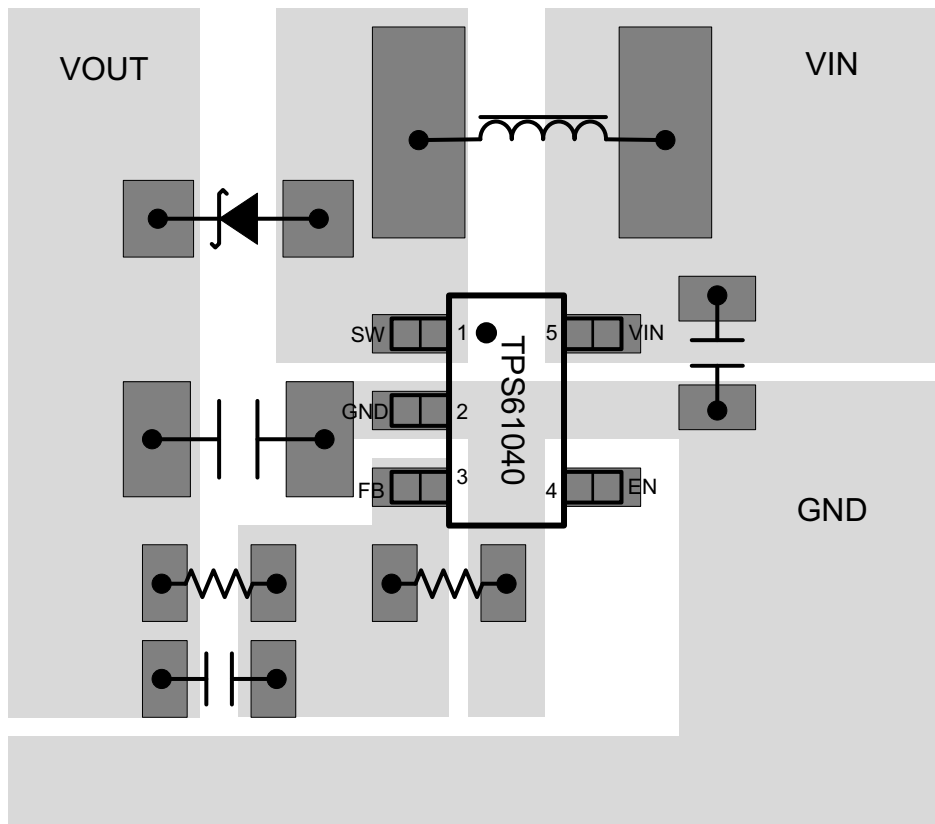

Figure 23. Layout Diagram
**Table 3. Recommended Inductor for Typical LCD Bias Supply (see Figure 23)**
**Table 3. Recommended Inductor for Typical LCD Bias Supply (see Figure 23) (continued)**
**Table 5. Recommended Schottky Diode for Typical LCD Bias Supply (see Figure 23)**
Wide traces should be used for connections in bold as shown in Figure 23. A star ground connection or ground plane minimizes ground shifts and noise.